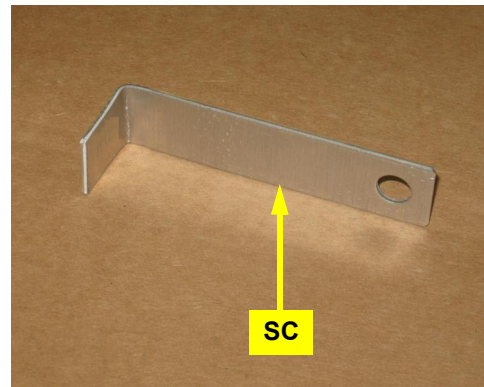

Figure 1b: Newly bent sensor bracket
- b. Put a 90° bend in the SWS sensor bracket **SC** at the opposite end to the pre-drilled hole (Figure 1b).